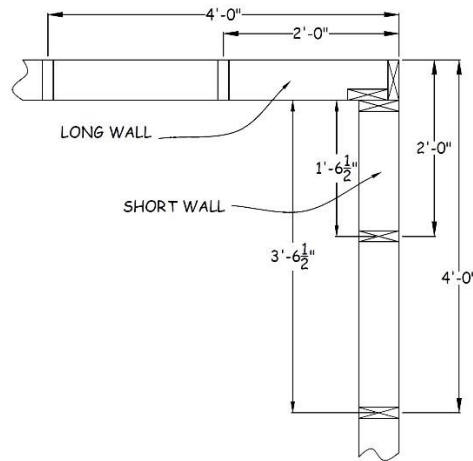

Figure 3-4. Corner Layout.
4. Plates on the long walls take into account that the studs are placed on 2' centers from the outside of the zero corner. Plates on the short walls will be cut 5½" shorter than that to place their ends inside the long wall plates (see Figure 3-4).